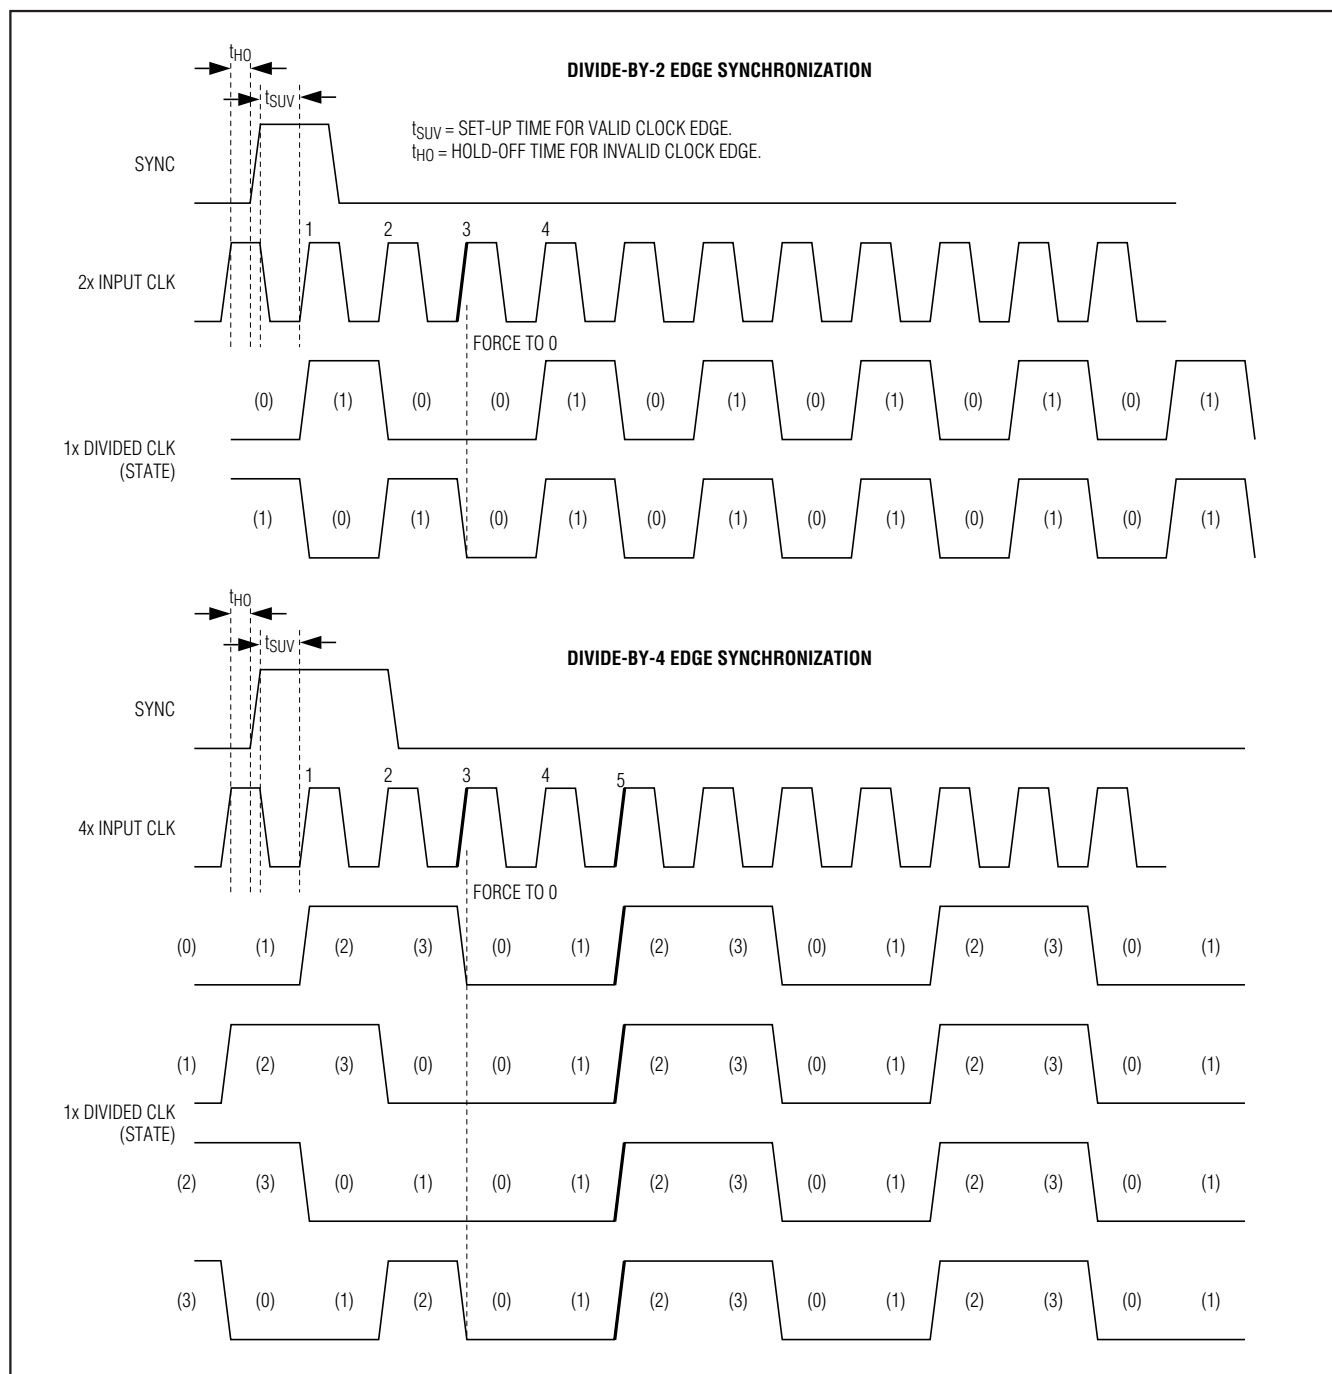

Figure 12. Edge Synchronization Mode
1 = Edge mode (Figure 12)
**Edge Synchronization Mode, SYNC\_MODE = 1:** On the third rising edge of the input clock (CLK) after the rising edge of SYNC (provided set-up and hold times are met), the divided output is forced to state 0. A divided clock rising edge occurs on the fourth (/2 mode) or fifth (/4 mode) rising edge of CLK, after a valid rising edge of SYNC (Figure 12).